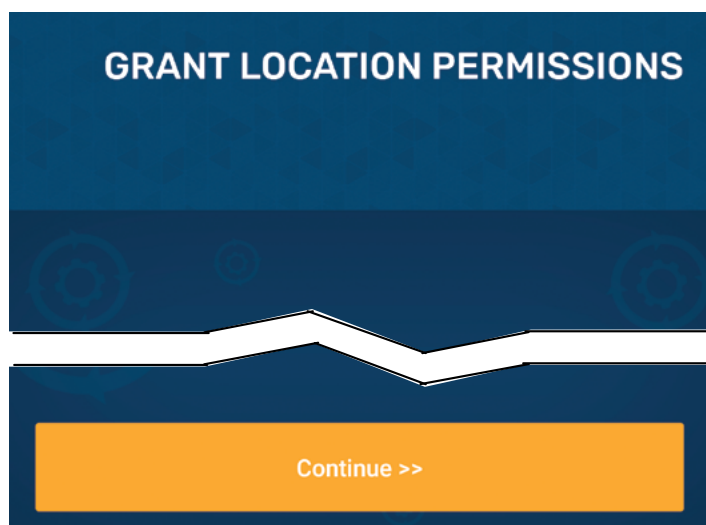

Fig.5
4. OneControl BT requires location permission to find and connect to available networks (Fig.5). Tap Continue button to proceed with setup.